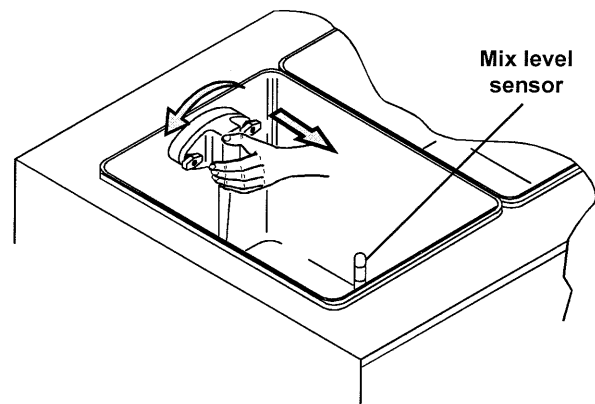

Fig.11
- 2) Turn the pump slightly and extract it from its seat (Fig.11).
- 3) Clean carefully the mix level sensor (Fig.11).